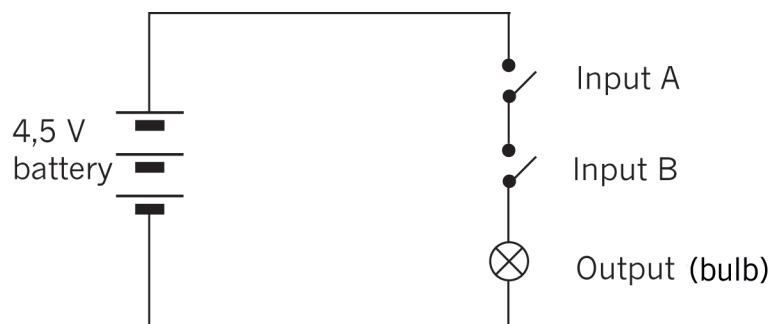

Figure 11: Circuit with two switches in series
1. In the table below, “0” means off or open, and “1” means on or closed. Copy and complete the table to show all the different combinations possible in the circuit in Figure 11. To help you, the first two rows of the table have already been completed. Make sure you understand those two rows before you complete the table.